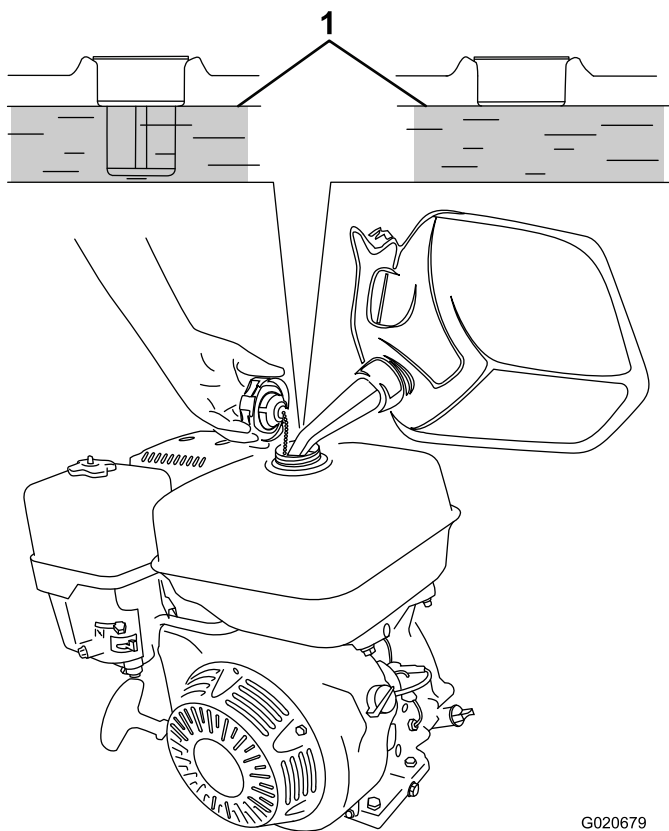

Figure 27
3. Add unleaded gasoline to the fuel tank, until the level is at the bottom of the maximum fuel level, as shown in Figure 27.